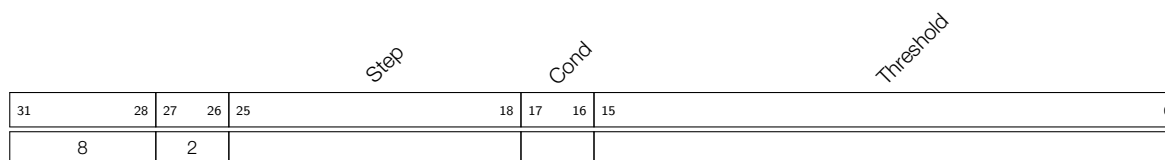

Figure 28-17. Instruction Type - JUMPS
**Operand**    **Description** - see Figure 28-17*Threshold*    Threshold value for condition (see *Cond* below) to jump*Cond*    Condition to jump:1X - jump if  $Stage\_cnt \leq Threshold$ 00 - jump if  $Stage\_cnt < Threshold$ 01 - jump if  $Stage\_cnt \geq Threshold$ *Step*    Relative shift from current position, expressed in 32-bit words:if  $Step[7] = 0$ , then  $PC = PC + Step[6:0]$ if  $Step[7] = 1$ , then  $PC = PC - Step[6:0]$ **Note:**